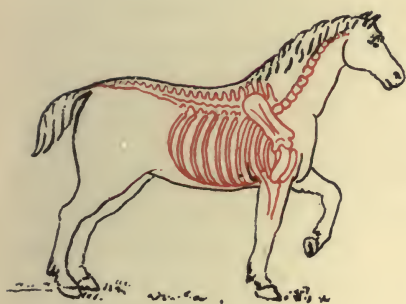

FIG. 2.
In considering the question of a force acting on a particle there are three things to be borne in mind:—(1) the point of application (the point of attachment of the trace to the hame); (2) the direction; and (3) the magnitude of the force. In our case the last of these three things is the power of the horse, and the magnitude of this power we know.* The shoulder is the point at which the greatest power is obtained without impeding the action of any of its limbs (see Fig. 2, Plate I.), and Major Francis Dwyer, in his "Bits and Bridles, Draught and Harness," tells us that